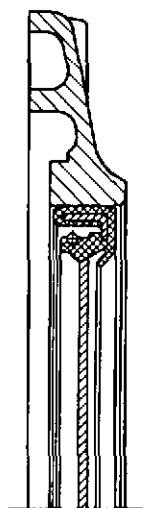

Fig. 4
- Using installation plate 6.206.0.690.008.4 with drift press, install seal offset by 2 mm inwards so that contact surface of sealing lip is axially displaced (Fig. 4).